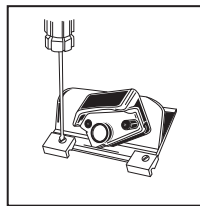

Fig. 2
3. Holding the bearing with the slot facing down, align the hole in the bearing with the hole in the cutter base and thread in the screw. (FIG. 2)